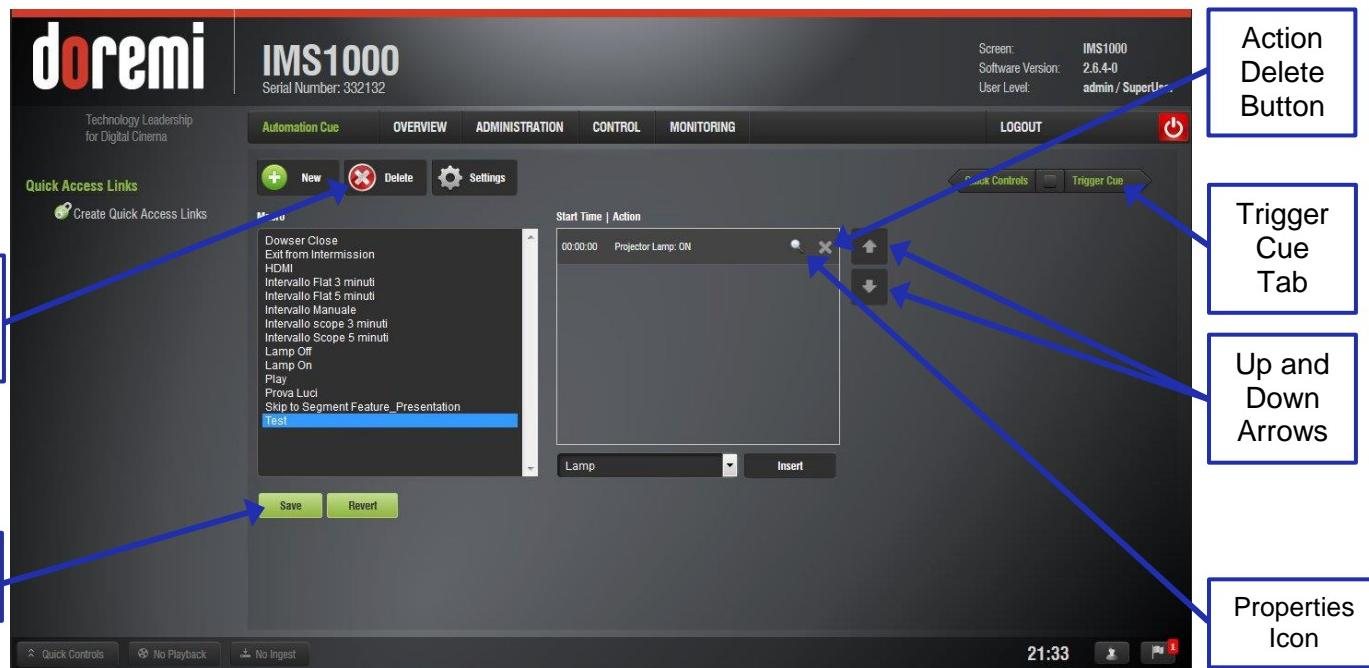

Figure 146: Action Added
- The right part of the Automation Cue tab will display the added actions as illustrated below (Figure 146):
The two arrows allow the user to change the order of the actions in the Macro Automation Cue (Figure 146). Using the arrows, each action can be moved to the top or to the bottom of the Macro Actions window.
The user can edit an action of any given Macro Automation Cue by highlighting it in the Macro Actions window. To edit the action, click on the Properties icon that appears on the right (Figure 146). The user will be able to edit the properties and set the action when added to the Macro Automation Cue.
- To remove an action from the list of actions associated with a Macro Automation Cue, select the action in the Macro Actions window and click the X that appears on the right (Figure 146).
- To delete a macro in its entirety, highlight it in the left side of the GUI and click on the Delete button (Figure 146).
- Repeat the Macro creation operations for all the Macro Automation Cues and click the Save button (Figure 146).
The user can access the Trigger tab by either selecting it on the left hand side of the GUI under the Macro Editor tab (Administration → Macro Editor) or by clicking on the Trigger Cue arrow in the Macro Automation tab and Quick Controls tab (Figure 146).
The Trigger Cue tab is located under Administration → Macro Editor → Trigger Cue (Figure 147). Alternatively, the user may also click on the green arrow button on the right side of the Automation Cue tab to access the Trigger Cue tab (Figure 146).